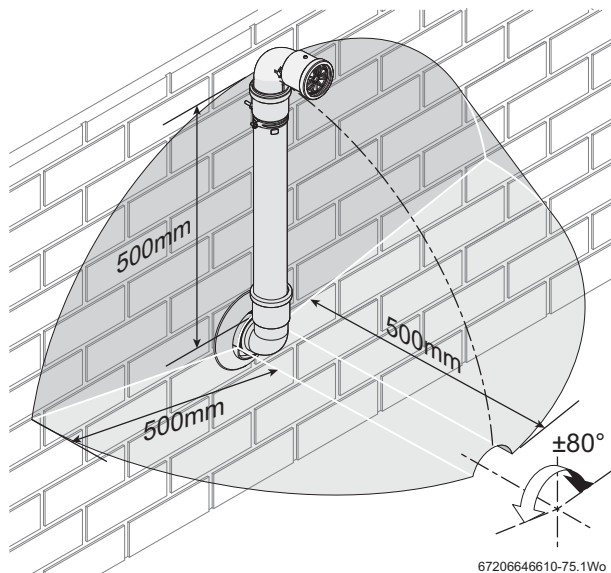

Fig. 18 Terminal exclusion zone
The minimum plume length should be calculated to ensure that the air inlet and exhaust have a minimum distance of 500mm between them (→ figure 18).
▶ Do not terminate the plume management inside the shaded area shown in figure 18